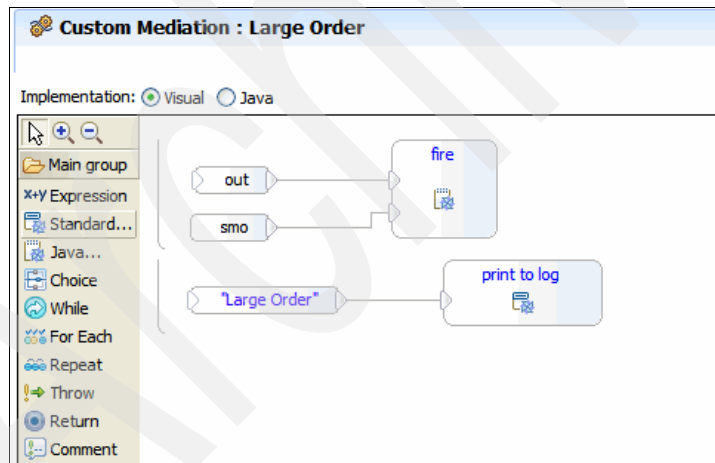

Figure 6-89 Large Order
8. Repeat step 2 on page 321 through step 7 to modify the Large Order custom mediation to output "Large Order" to the log (Figure 6-89).